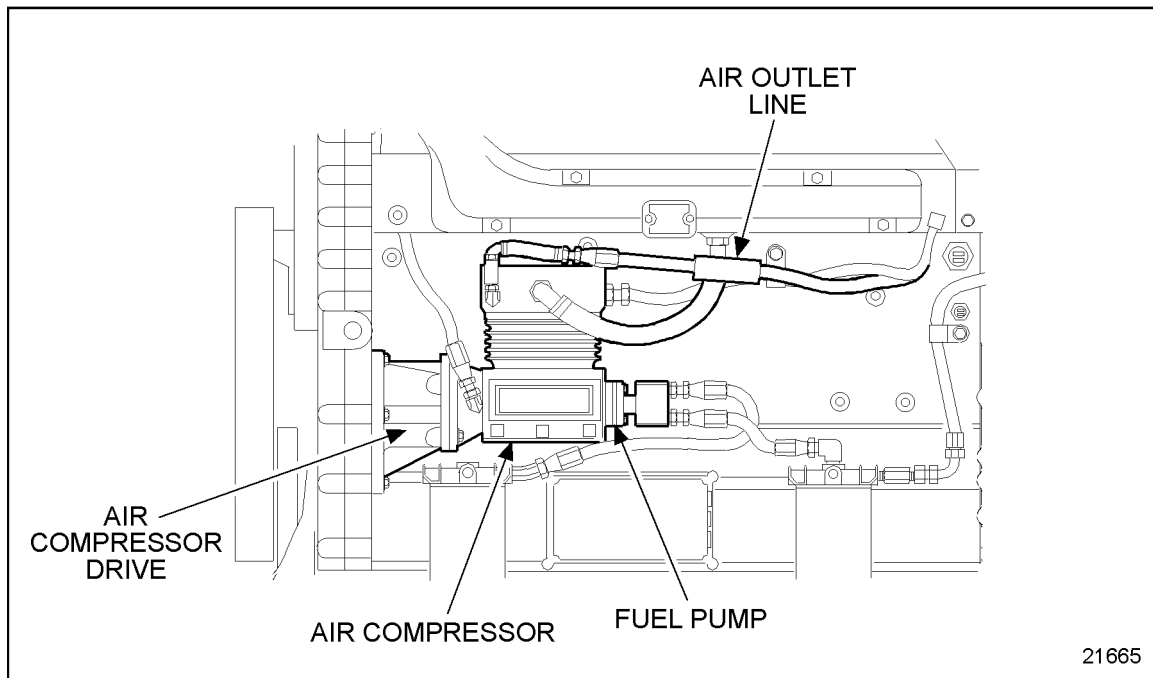

Figure 5-1 Air Compressor Air Outlet Line
2. Disconnect the air outlet line from the air compressor; see Figure 5-1; refer to appropriate service manual, special equipment chapter.